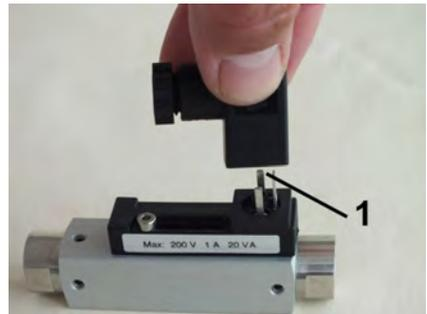

Fig. 54: Remove female socket
- 2.** ▶ Remove the female socket and gasket (Fig. 54/1) by pulling upwards.